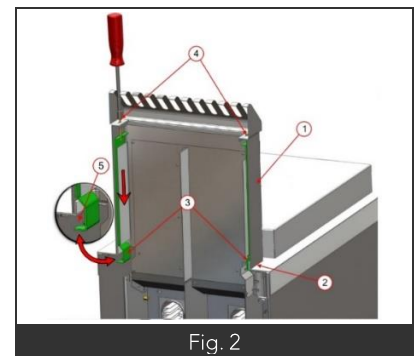

Fig. 2
- Put the hooks at the bottom of the flue (Fig. 2 – Label 3), under the top of the appliance.
- Screw the two screws located at each side of the flue and accessible from the holes of the grid at the top of the flue (Fig. 2 – Label 4) to lock flue's position.